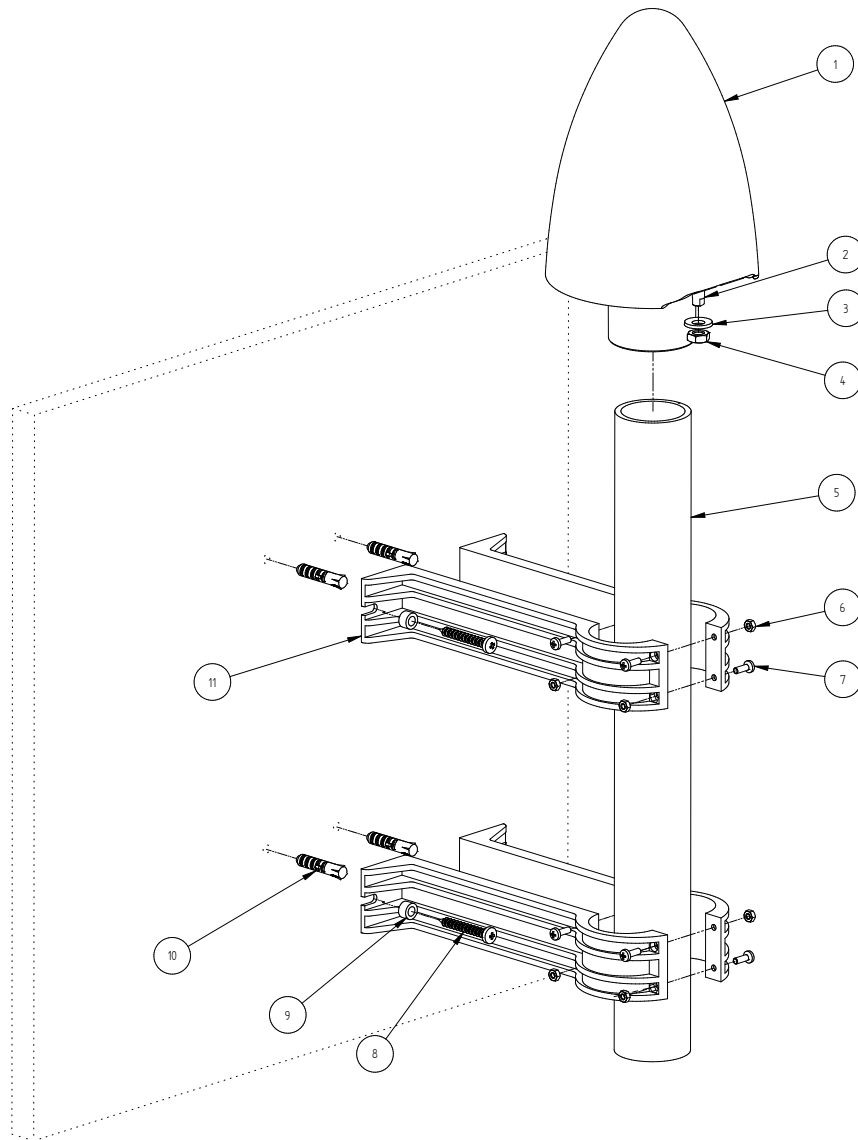

Figure 7.5: Mounting a Meinberg GNSS antenna onto a wall
■ Fig. 7.5 illustrates the installation of a Meinberg GNSS antenna on a wall.
1. Insert the antenna tube (Item 5 in ■ Fig. 7.5) into the designated rounded recesses of the two pairs of antenna tube clamp halves (Item 11). Secure the tube inside each of the two clamps (Item 11) using four M4x12 Phillips screws (Item 7) and corresponding M4 hex nuts (Item 6). To ensure that the tube (Item 5) is as secure as possible, the top and bottom M4x12 screws (Item 7) of each tube clamp should be inserted from opposing directions as shown in ■ Fig. 7.5.